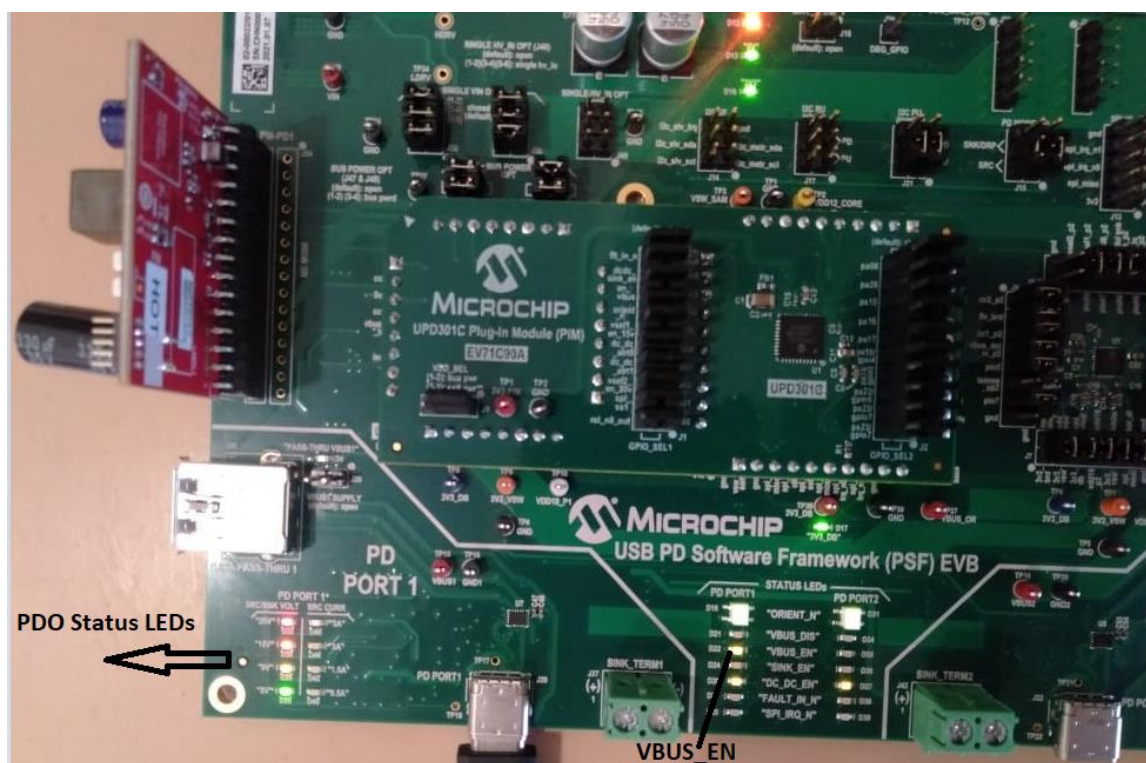

Figure 7.2 VBUS\_EN and PDO Status LEDs after device attach
4. Once an explicit power contract negotiation is in place, the device starts charging. VBUS\_EN LED will turn on along with the PDO status LEDs indicating the negotiated voltage as shown in Figure 7.2
5. In our case, UPD301C Basic Sink AE requested 20V. The status of VBUS\_EN and PDO status LEDs is shown in Figure 7.2.